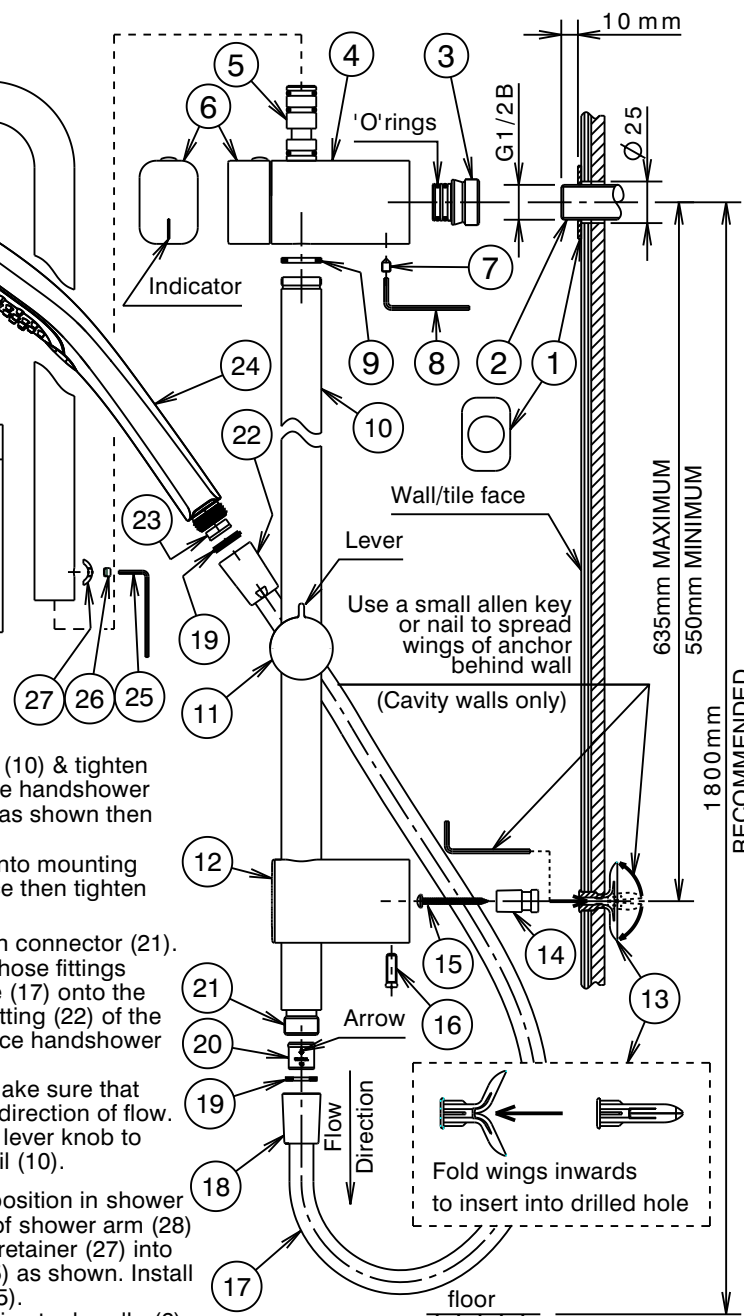

Fig. 1
- 2) Slide wall plate (1) over threaded nipple (2). Screw on adaptor (3) until it bottoms against wall plate (1), taking care that the wall plate is vertically aligned when the adaptor is tightened. DO NOT OVERTIGHTEN. Apply suitable lubricant to 'O'Rings on adaptor (3).
- 3) Mark the position for the mounting spigot (14) drilled hole at a suitable distance from the threaded nipple (2). (Fig 1.)
- ii) Fold the wings of the anchor (13) inwards, as shown.
- iii) Insert the folded anchor (13) into the drilled hole and tap until the head is flush with the wall surface.
- iv) Insert a small allen key or nail into the hole of the anchor (13) to spread the wings of the anchor behind the wall (Fig.1).